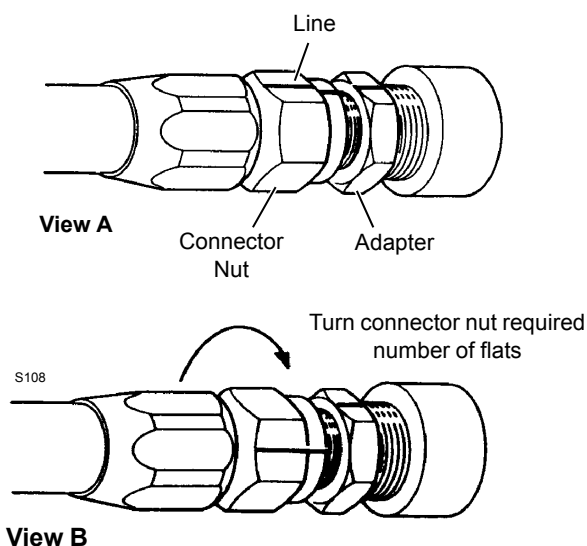

Figure 2-23. SAE Flare Connection
2. Mark a line (use felt pen or marker) on the adapter and extend it onto the connector nut (Figure 2-23, View A).